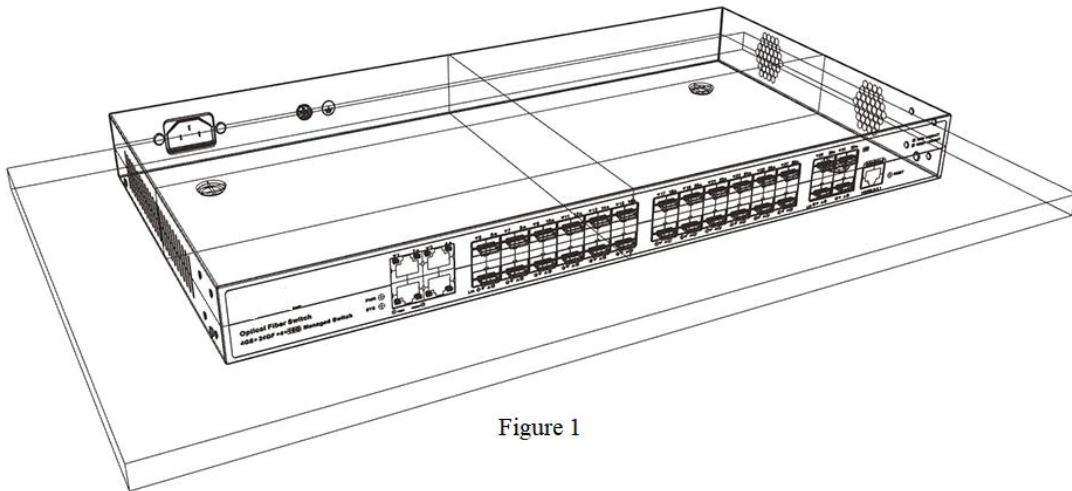

Figure 1
Step 1: As shown in Figure 1, place the switch on the desktop and ensure that at least 10cm of space is reserved on both sides of the switch vents so that the switch can be well-ventilated and dissipated.